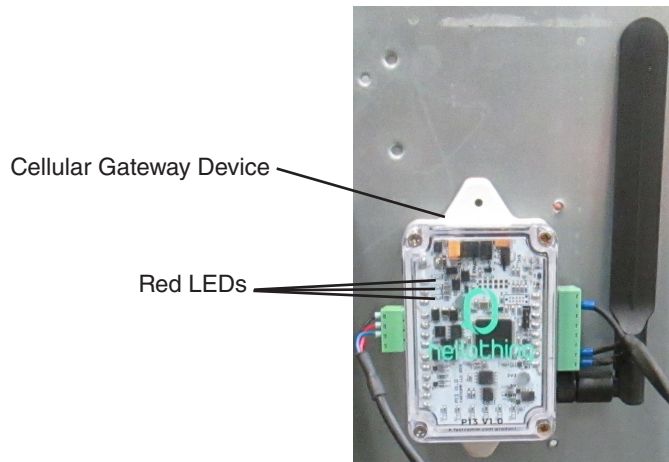

Fig. 8
- 15) Plug the cellular gateway power supply cord into the 115VAC electrical outlet. The cellular gateway turns on and 3 red LEDs turn on. See Fig. 8.